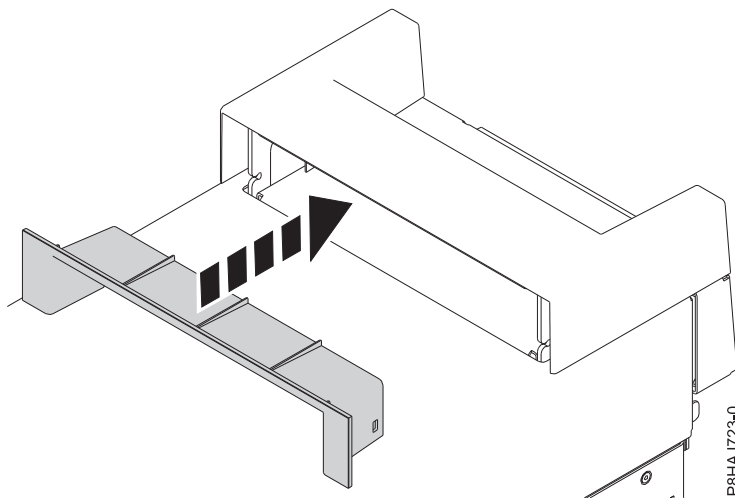

Figure 20. Inserting the piece within the handle cover on an 8286-41A stand-alone system
2. Insert the piece within the handle cover by pushing it firmly into the handle cover as shown in Figure 20.